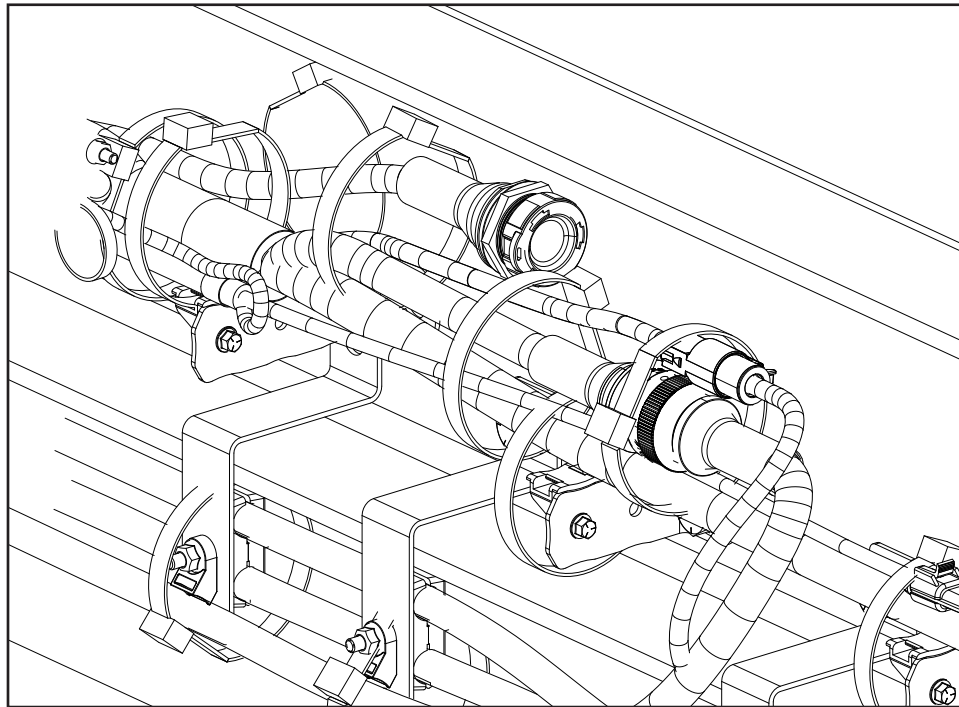

Figure 8
15. Connect the A8710105-005 harness to the DTHD04-1-4P connector and the HDP24-24-9PN connector on the chassis harness (see *Figure 8*).